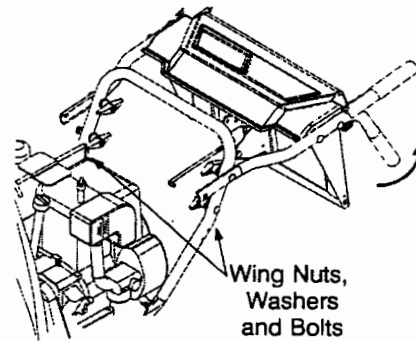

FIGURE 2
- Remove the **lower** two plastic wing nuts, cupped washers and carriage bolts from each side of the lower handle. See Figure 2.
- Raise the upper handle assembly until it locks over the lower handle. See Figure 2 and 3.